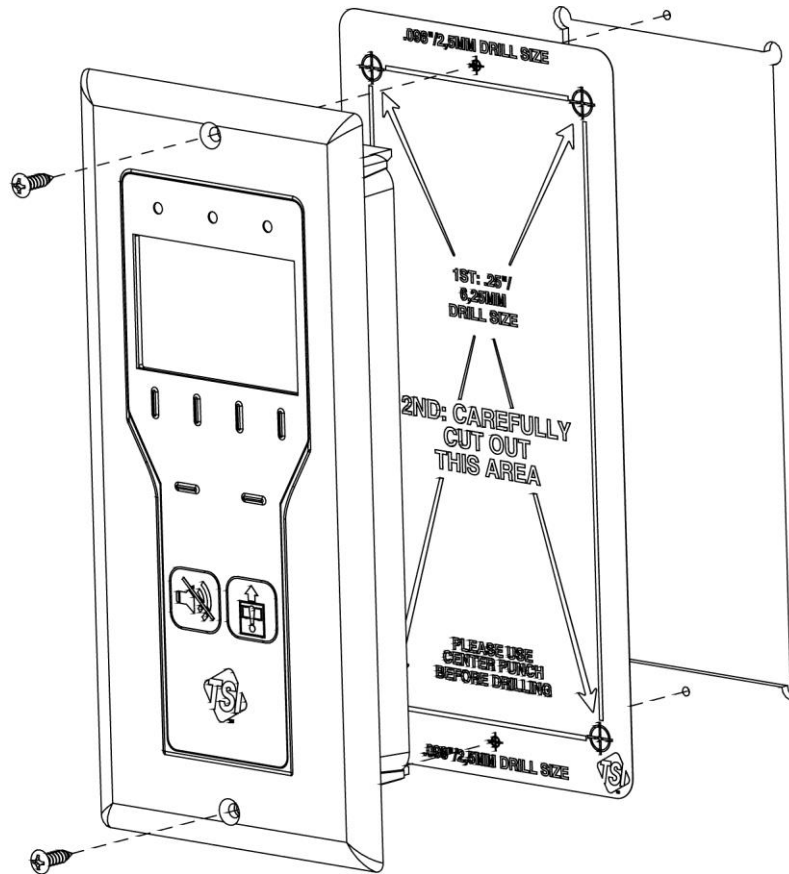

Figure 5: Final Mounting of Flush-Mount Assembly
7. Insert the Flush-Mount Bezel and FHC50/FHM10 assembly into the cutout mounting location and secure with the provided screws. (Figure 5).